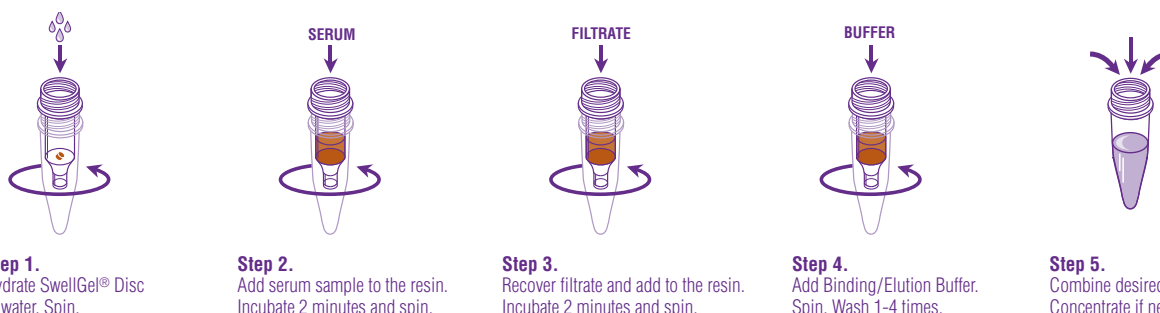

Figure 11. SwellGel® Blue Albumin Removal Kit Protocol.
- **Pre-measured, easy-to-handle discs with an easy-to-follow protocol (Figure 11)** – no waste – all resin can be used; no need to pipette messy slurries